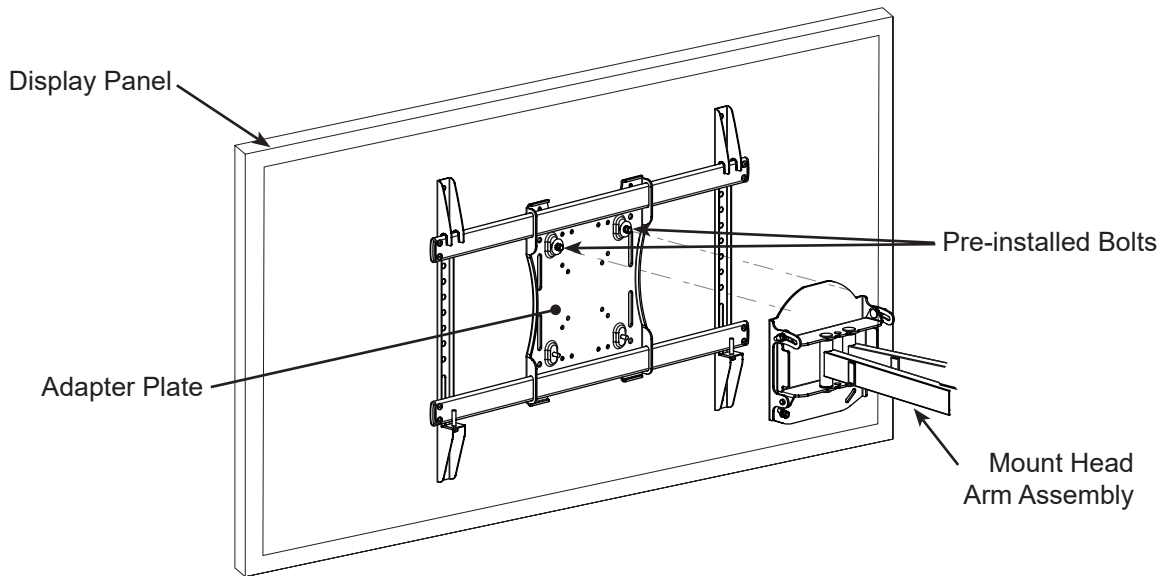

Figure 4
1. Remove pre-installed hex nuts and nylon washers from bottom bolts on adapter plate using the provided socket wrench (N).
2. Lift the display and hook the two pre-installed bolts in grooves on top of the Mounting Head (Figure 4).